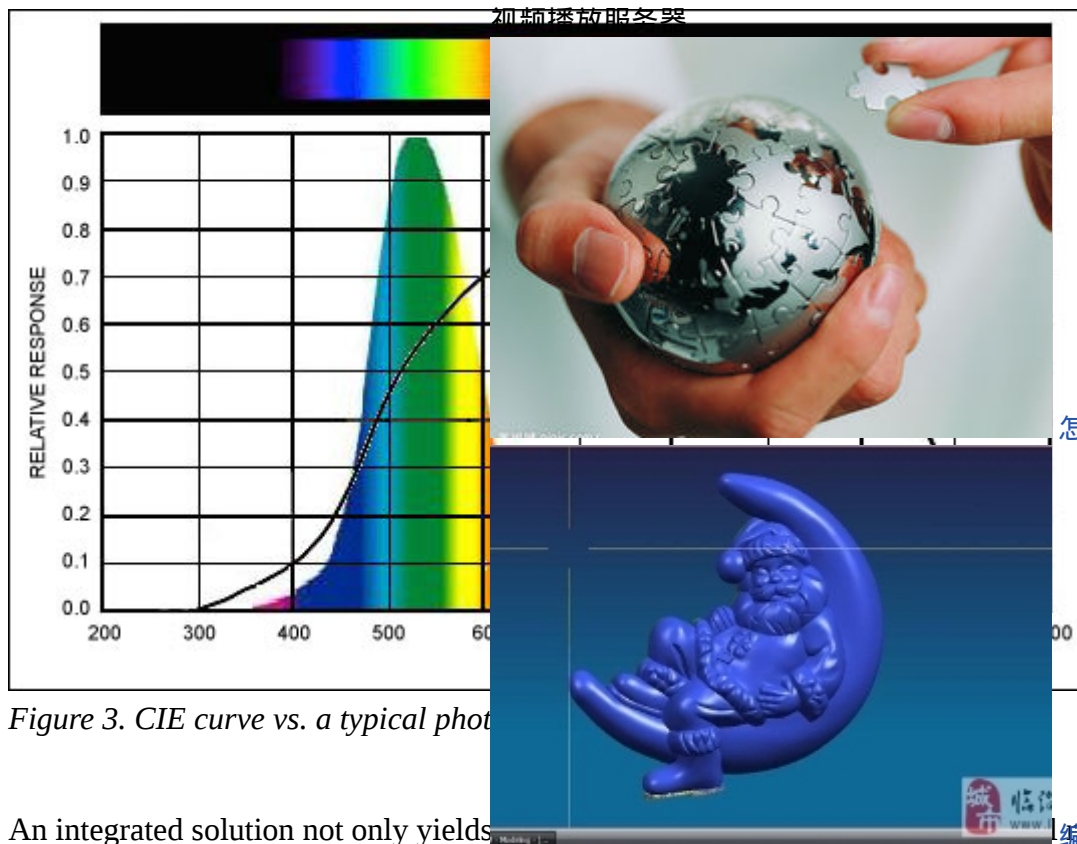

Figure 3. CIE curve vs. a typical photograph
There is a second, more subtle, issue at hand here. Specifically, it is desirable to ensure that the ambient light is measured in a way that replicates the optical response of the human eye to light. This is often described with the CIE photopic curve (**Figure 3**). However, photodiodes rarely replicate this response, since they often have a heavy infrared (IR) sensitivity. This sensitivity causes false readings under IR-heavy light, such as that from incandescent bulbs or the sun.